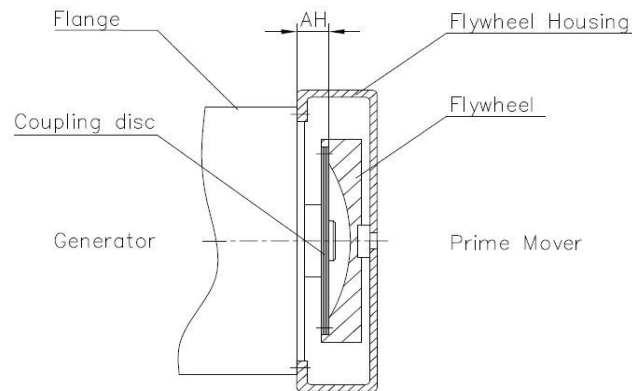

Figure 3-1. Connection with the engine.
- Check that the offset (AH) is in accordance with corresponding measurement on dimension drawing (see *Figure 3-1*. below).